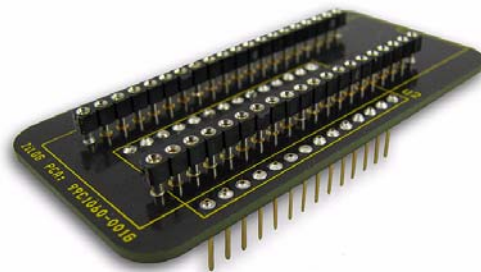

Figure 7. 28-PDIP to 40-PDIP Converter
2. Install the 28-pin SOIC programming adapter onto the 28-PDIP to 40-PDIP converter (shown in Figure 7).